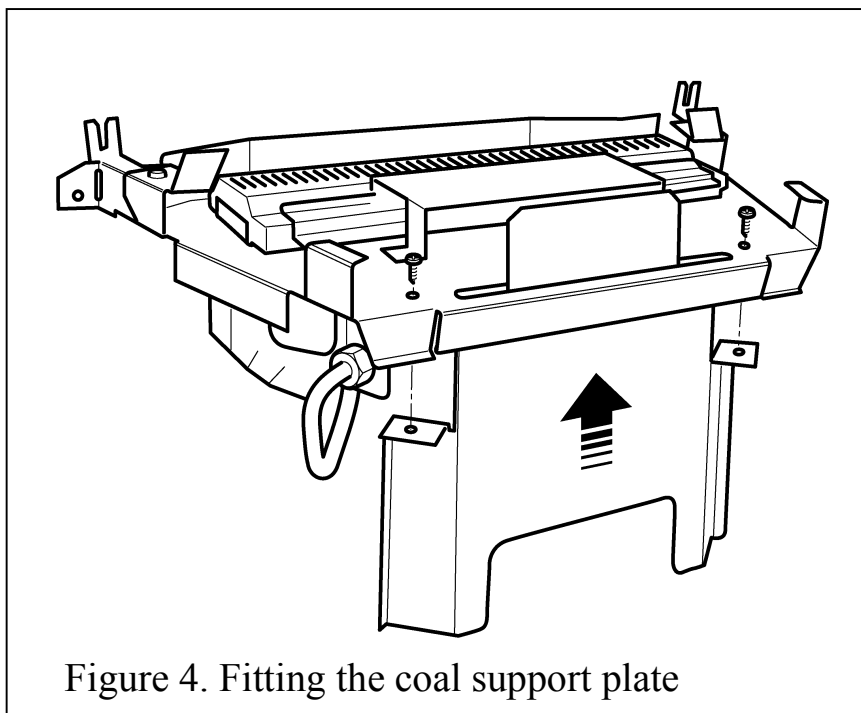

Figure 4. Fitting the coal support plate
6.3.1 Prior to installation of the burner the coal matrix support plate must be fitted (See figure 4). Two self-tapping screws retain the plate.